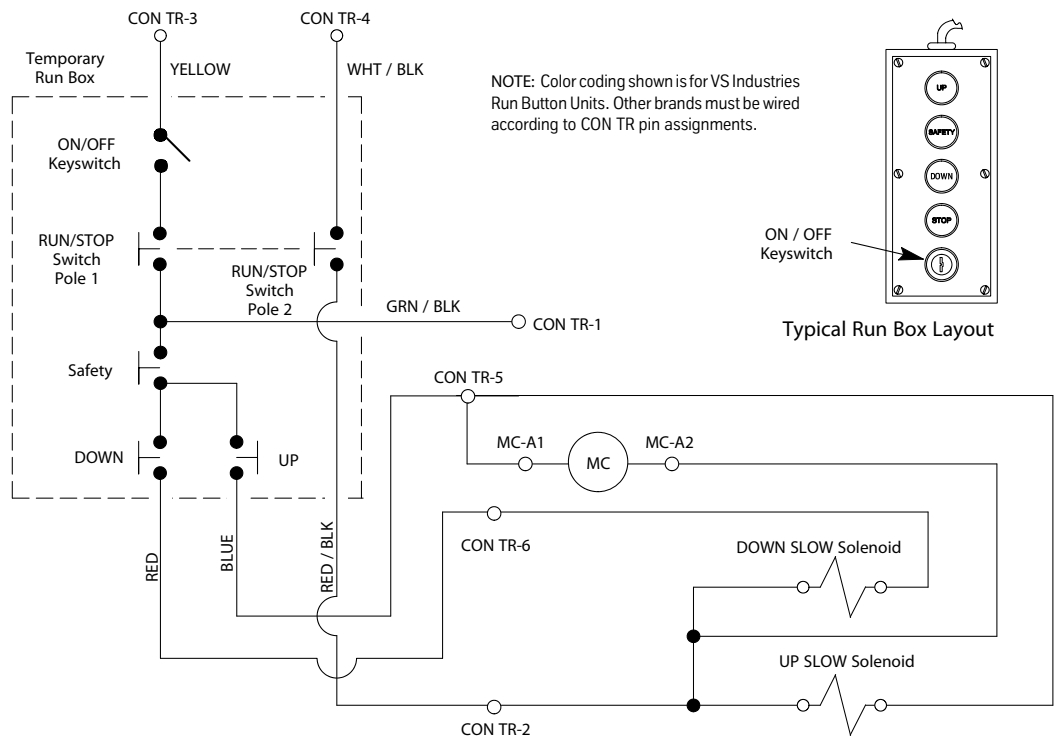

Figure 3 - Temporary Operation Connections
4. Verify the temporary orange jumpers. See the wiring diagrams and Figure 3 on page 4,
5. Connect the temporary run box (as shown in Figure 3) to temporarily run the connector in the controller.